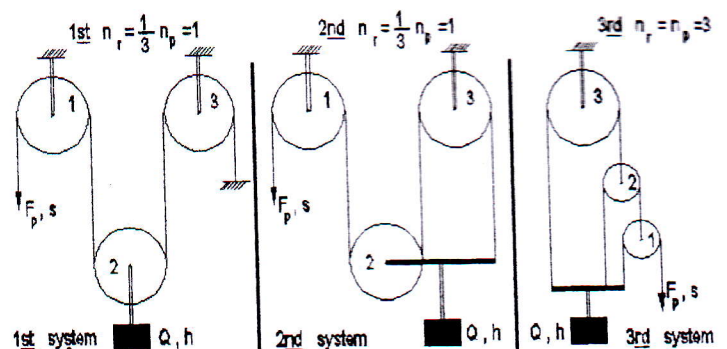

Fig.3
- B) Date: Three flexible hoisting systems (Fig.3)